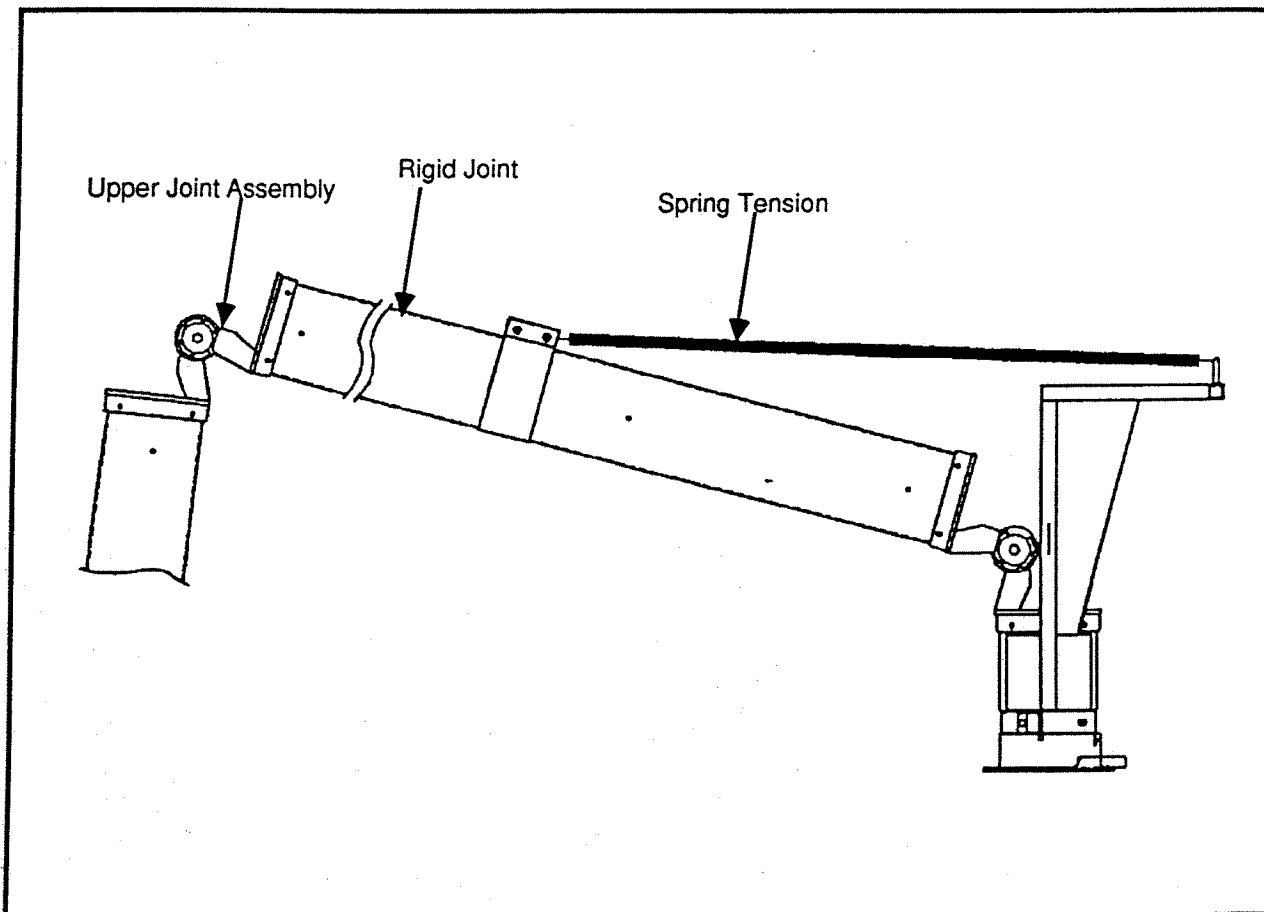

Figure 15
1. Remove the four (4) 1/4" - 14 x .50" lg. screws that fasten the Flex-Trunk adapter collar to the collar insert mount and carefully remove the Flex-Trunk, being careful of the electrical cable connections.
2. Remove the 5/16" - 18 x 1" lg. bolts, lock washers, and nuts that fasten the Flex-Trunk collar mount to the Porta-Trunk. Remove the collar mount assembly from the Porta-Trunk. Set the ring spacer mount aside (See Figure 15).